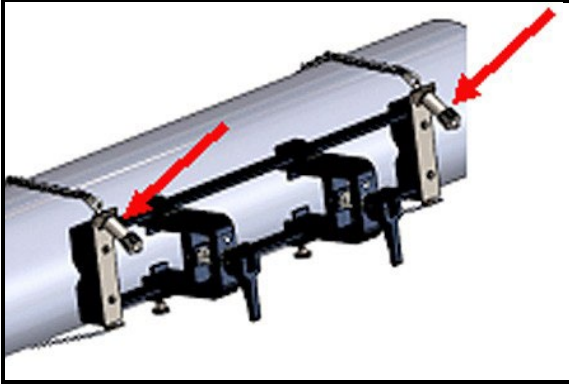

Figure 16: Secure the Fixture to the Pipe
9. After final alignment is complete, fully tighten both chains by turning the nut on top of both chain screw mechanisms (see Figure 16 below) until the chain is tight enough to resist any fixture movement.